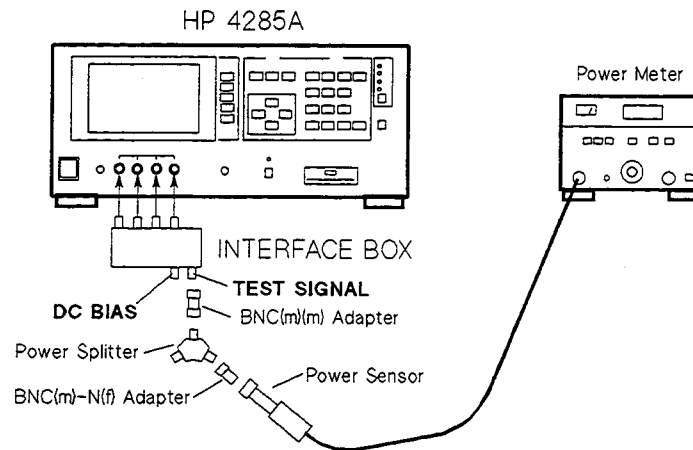

Figure 1-4. Test Signal Level Monitor Accuracy Test Setup using an Interface Box
2. Set up the equipment as shown in Figure 1-4.